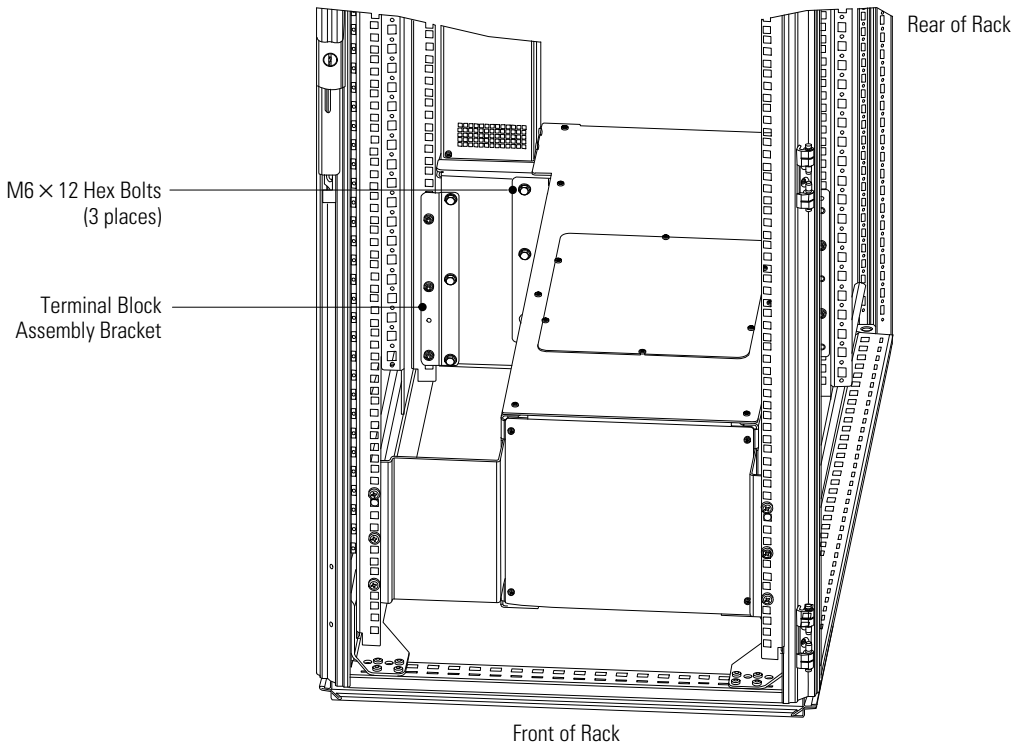

Figure 5. Terminal Block Assembly Installation
10. Note the orientation of the terminal block assembly bracket installed on the bar for later re-installation (see Figure 5). Remove and retain the terminal block assembly bracket and hardware.
12. Secure the bar to the wireway with three M6 × 12 hex bolts. Install the bolts from the **front** of the rack. See Figure 5. Torque the bolts to 5.1 ± 0.8 Nm (45 ± 7 lb in).
13. Reinstall the terminal block assembly bracket removed in Step 10. Install the bolts from the **front** of the rack. See Figure 5. Torque the bolts to 5.1 ± 0.8 Nm (45 ± 7 lb in).